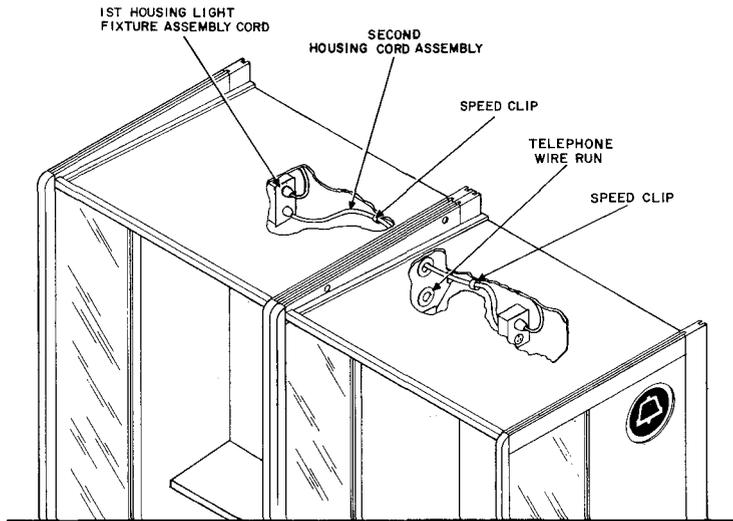

Fig. 35—Wire-Runs Between Two Walk-in Housings Side-By-Side
- (1) Remove two plugs from top of left wing (second station) and two from bottom.
- (2) Align the plug holes of second station with threaded holes in first station and install four 1/4-20 by 3/4 hex socket head cap screws from the List 73 kit.
- (3) Install four new hole plugs from the List 73 kit over the screw heads.
- (4) Tighten all mounting screws that secure housings to posts or mountings.
- (h) Pull the electrical cord of the second station up through housing and feed it through to the first station per Fig. 35.
- (i) Secure the cord to housings with speed clips from List 73 kit per Fig. 35.